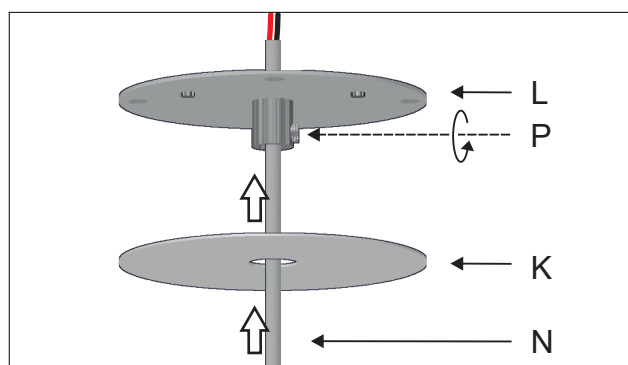

Figure 9
Run the main cable (N) through the metal base (K) and the mounting bracket (L) and lock it in place with the cable holder (P). Figure 9.